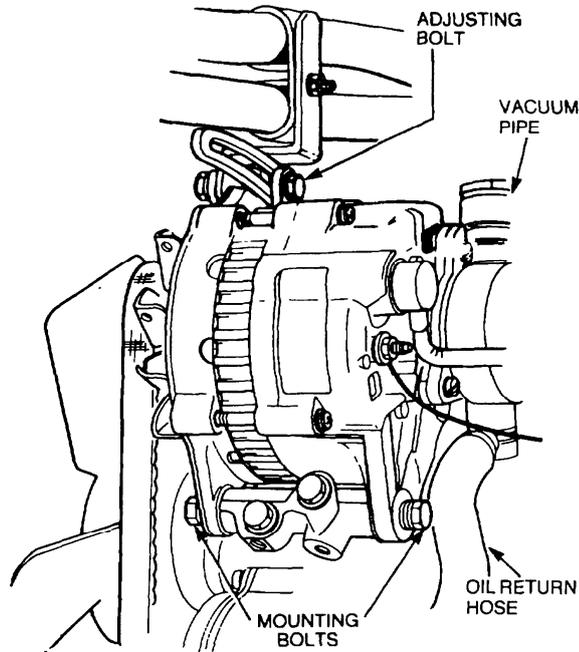

Figure 177 Alternator Removal
- b. Loosen the hose clamp securing the hose to the vacuum pump (Figure 177) and plug the hose with a suitable plug.